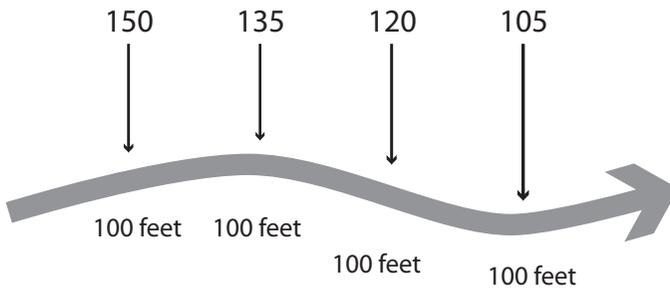

Fig. 2-3. Friction loss is independent of the pressure
5. **For a given velocity, friction loss is independent of the pressure (fig. 2-3).** The amount of friction loss in a hose depends upon the amount of water flowing through the hose and the velocity with which it is moving. If the hoseline is laid up a hill, the pump will need to overcome the back pressure created by the elevation, but the friction loss would remain the same. If the friction loss in 100-ft of 2½" hose is 15 psi, the friction loss pressure would decrease by 15 psi for every 100 ft length connected together as stated in rule 2, but the pump discharge pressure will need to be increased to compensate for the elevation loss.